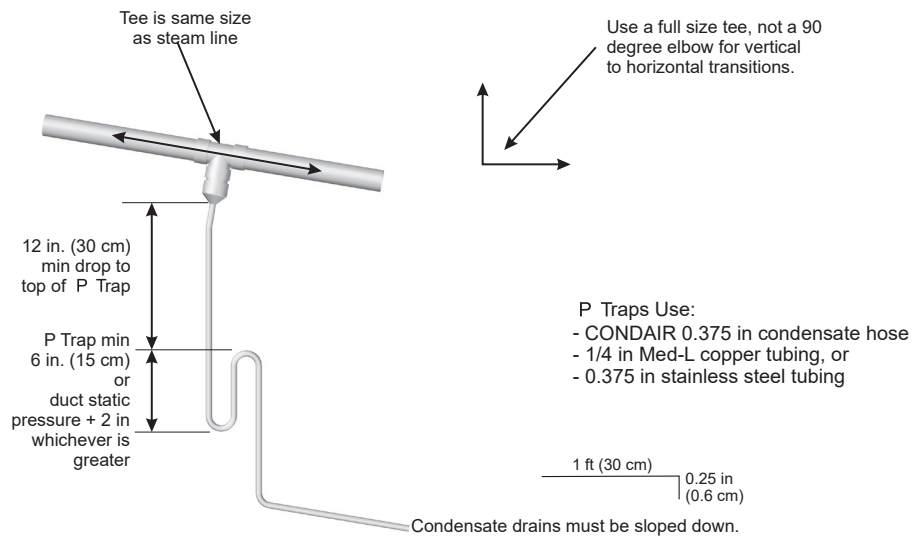

Figure 8: General condensate trap details.
1. Condensate drain lines must have a minimum slope of 1 in./48 in. (1.2°). See Figure 8 for details.
2. Use full size condensate tees in order to collect the condensate and then egress it to the drain. See Figure 8 for details.
3. The trap height should have a minimum of 12" head. The drip should be the greater value of either 6" in height, or duct static pressure plus 2". See Figure 8 for details.
4. Always use 3/8 in. Condair Condensate Hose (PN 1328840), 3/8 in. stainless steel pipe or 1/4 in. copper pipe for traps in the condensate lines. See Figure 8 for details.